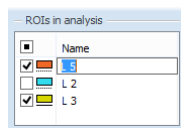

Figure 373 – Renaming the ROI with predefined name L3
3. Change the name directly in the list (see Figure 373).